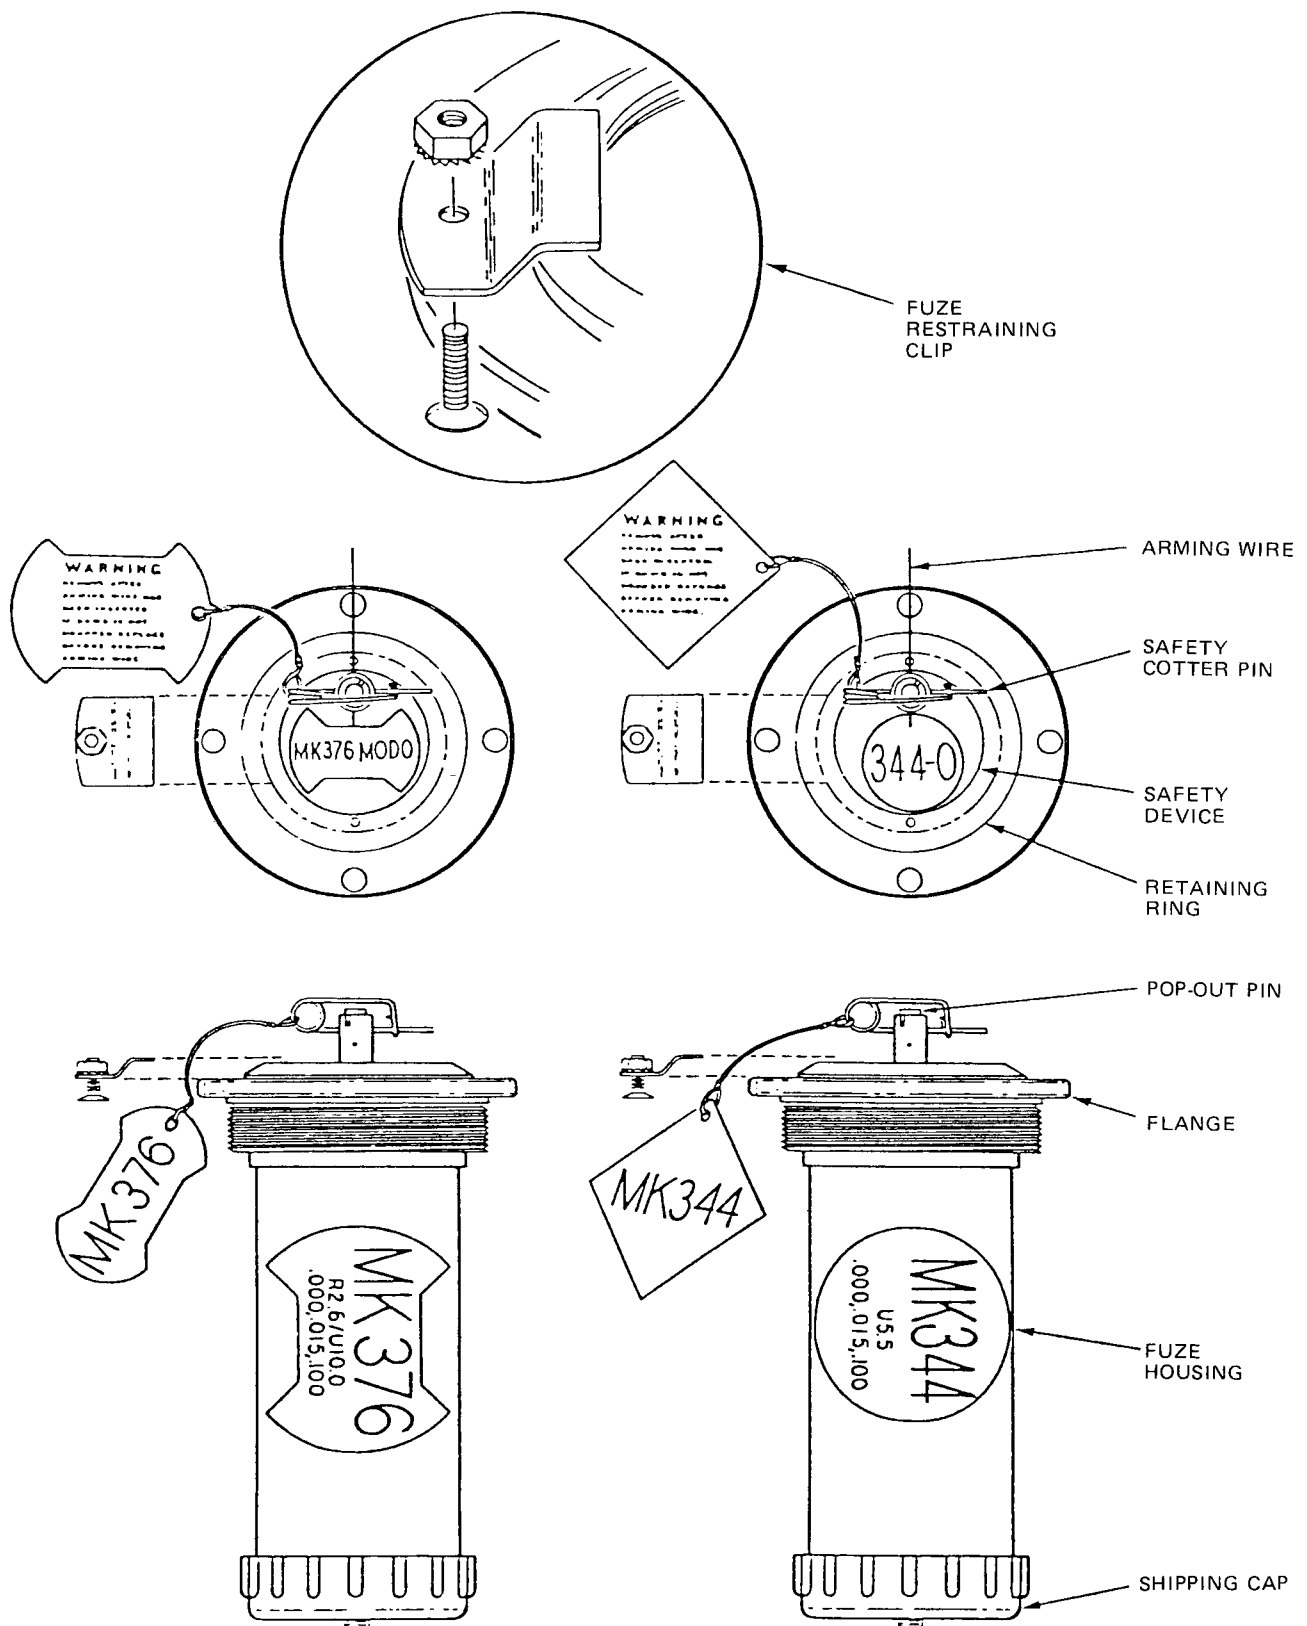

Figure 7-15. Electric Fuzes MK 344 and MK 376
7-106. ELECTRIC TAIL FUZES MK 344 MODS 0 AND 1 AND MK 376 MOD 0. Fuzes MK 344 and MK 376 (figure 7-15) and compatible with all bombs MK 80 series, thermally protected bombs, and laser-guided bombs (LGB). The MK 344 provides inflight selection of functioning delay time and is used for unretarded delivery only. The MK 376 provides inflight selection of functioning delay and arming delay times and may be used for either retarded or unretarded delivery. Both fuzes are compatible with proximity sensing element
7-117. A fuze restraining clip (figure 7-15) must be installed on all fuzes MK 344 and MK 376. This clip may be installed at the depot; if not, it must be installed prior to fuze installation in the bomb. This clip is essential to fuze reliability.
7-118. Safety. Electric fuze arming is controlled by the aircraft fuzing system and the fuzes MK 344/376 are fitted with the safety device MK 31. The device contains a pop-out pin that locks the fuze in the unarmed condition. The spring-loaded pin is held in the safe position by either a safety pin or an arming wire (figure 7-15). The pop-out pin controls a gag rod that locks the detonator in place, thus physically restricting the fuze
8. Check that fuze-restraining clip (figure 7-15) is installed on the flange of fuzes Mk 344 and MK 376. If not installed, make the installation as follows:
a. Fit the screw through any of the holes in the flange screw-head toward the base of the fuze as shown in figure 7-15.